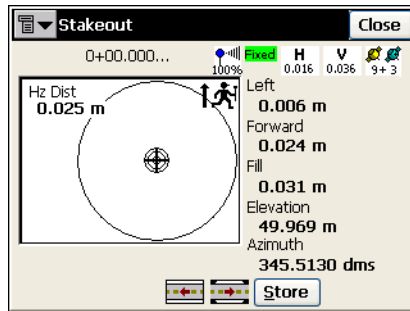

Figure 7-36. Stakeout
- For GPS+: use the information on the **Stakeout** screen for finding the target. Tap **Store** after the position is close enough to the desired one (Figure 7-36).